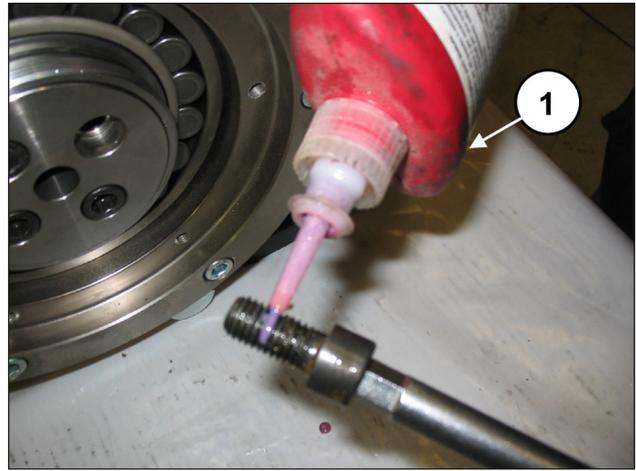

Fig. 87
**Apply LOCTITE 243 to the threads of the M12x25 screws (pos. ①, Fig. 87).**